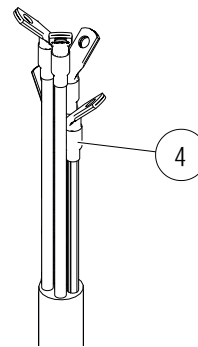

Fig. 41: Install shrink sleeve (Pos. 4)
- Install the shrink sleeve (Pos. 4) (see Fig. 41).